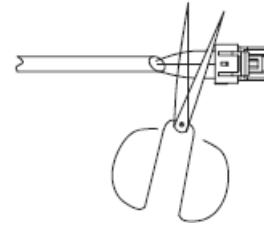

Fig. 16 —Cutting Outdoor Connector
1. Cut the connector on the outdoor unit side as shown in Fig. 16.